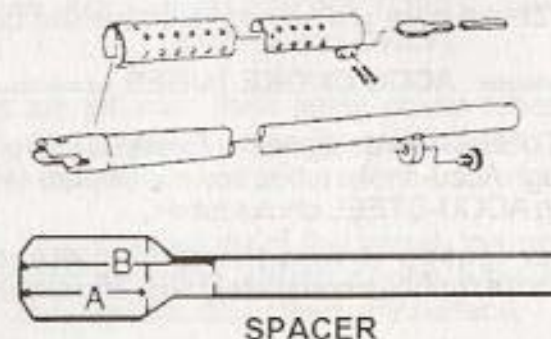

Fig. 17
- Position the appropriate length plastic spacer or optional bushing style spacers between the forward clamp. Insert the two screws and start the two hex nuts on the screws using a 7/64" hex key wrench and a 5/16" open end or box wrench. **DO NOT FULLY TIGHTEN THE TWO SCREWS YET** (Fig. 17).